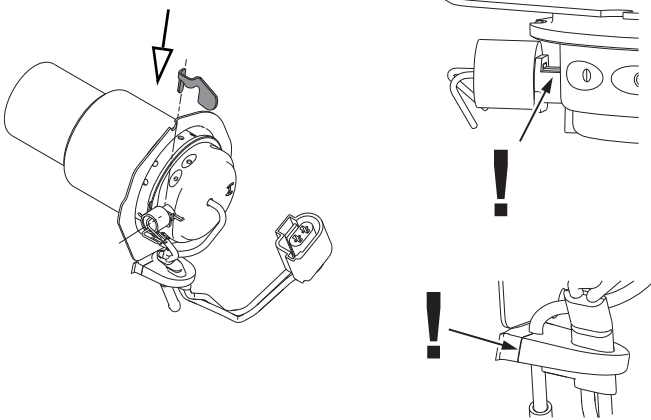

Fig. 911 Installing cooling flag
3. Hold cooling flag (B3) in groove (B11) with hand on glow plug dome (B8) (see Fig. 911 and Fig. 914).